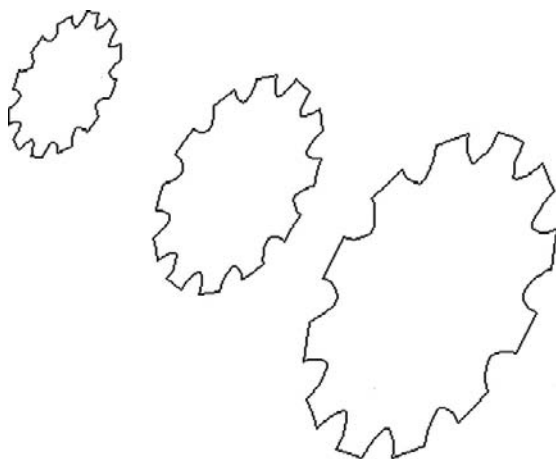

FIGURE 25.32
- Step 4.** Now, switch to the 3D SW Isometric view and separate the three profiles evenly in size order, as seen next. Be careful, you may have to 3Drotate all the profiles to get them to “stand upright.” Also, be sure to check the side profiles to make sure they are spaced evenly. Use Ortho, and when done, 3Dorbit around the profile to check that they are located just right. You should see what is shown in Figure 25.32.